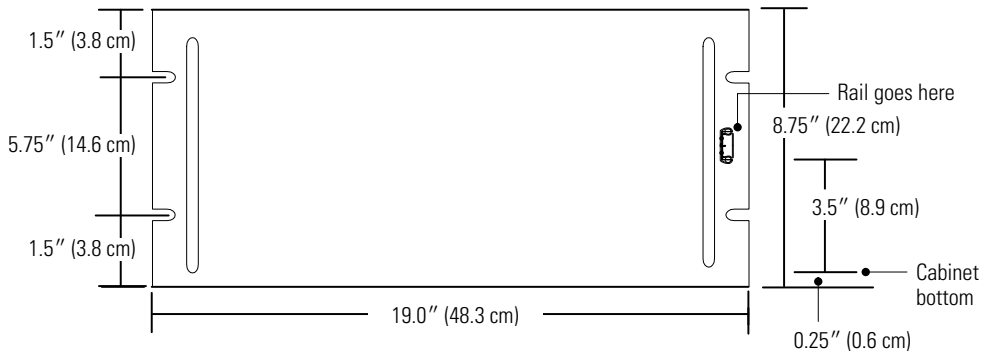

Figure 17. RBC-3 Front Panel Bolt Slot Measurements
7. To ensure the front panel bolts align with the holes in the rack, use the slot measurements in Figure 17 to position the outer rails before you attach them to the rack.